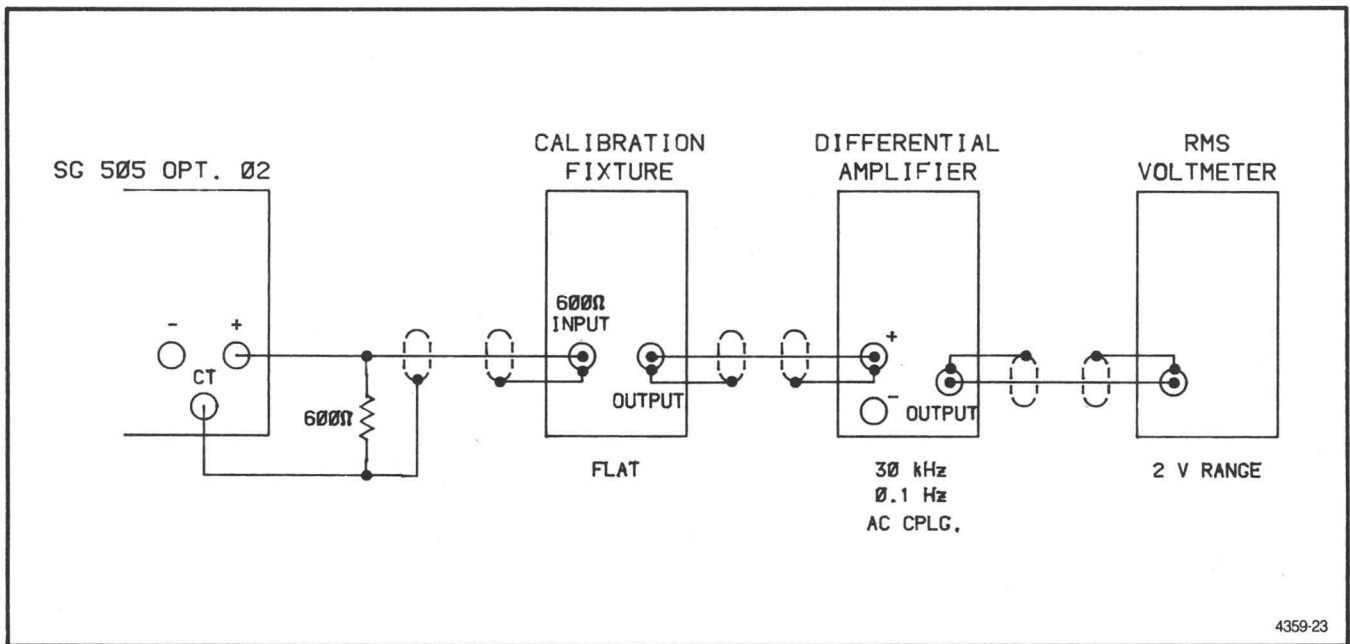

Fig. 4-1. Attenuator step accuracy setup.
- b. Connect the SG 505 + BALANCED OUTPUT and CT connectors through a bnc to dual banana adapter and a coaxial cable to the input of the calibration fixture as shown in Fig. 4-1. Connect a 600  $\Omega$  resistor across the + BALANCED OUTPUT to CT. Set the MODE of the calibration fixture to FLAT.
b. Connect the SG 505 + BALANCED OUTPUT and CT connectors through a bnc to dual banana adapter and a coaxial cable to the input of the calibration fixture as shown in Fig. 4-1. Connect a 600 Ω resistor across the + BALANCED OUTPUT to CT. Set the MODE of the calibration fixture to FLAT. See Fig. 4-1.